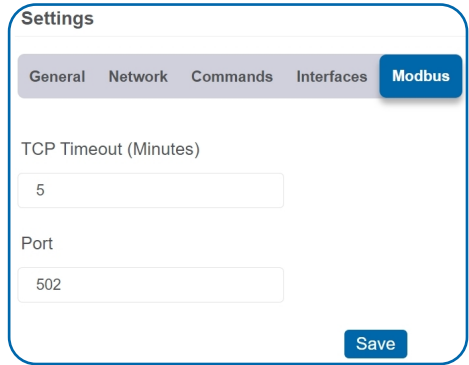

Figure 10
**Modbus Interface** – Modbus TCP (Transmission Control Protocol) is the Modbus RTU protocol with a TCP interface that runs on Ethernet. Monnit provides the Modbus TCP interface for you to pull gateway and sensor data. You can use Modbus without the server interface active. The data will not be sent to a server, but you can continue to poll for new data as it is received by the gateway. See Figure 10.